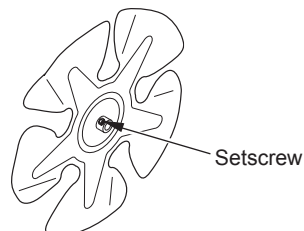

Figure 10 - Setscrew Location
3. Use hex wrench to loosen set screw which holds fan to motor shaft (see Figure 10). Remove fan. Be careful not to damage the fan blade pitch.
3. Use hex wrench to loosen set screw that holds fan to motor shaft (see Figure 10, page 7).